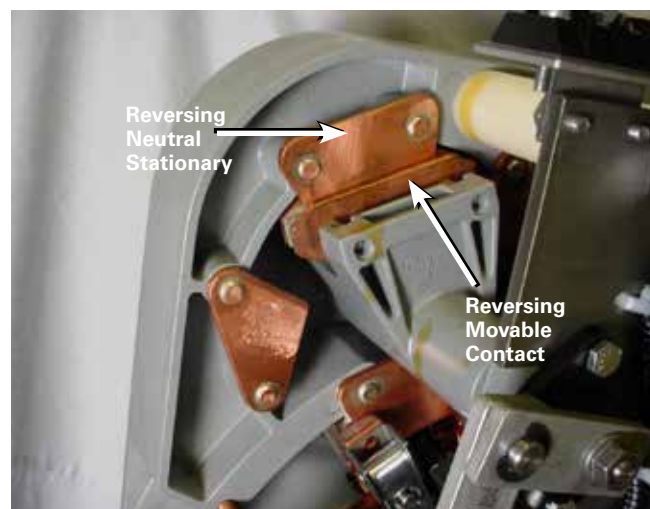

Figure 23. Neutral position for reversing movable.
- B. The reversing movable contact is located on the reversing neutral stationary contact. See Figure 23.